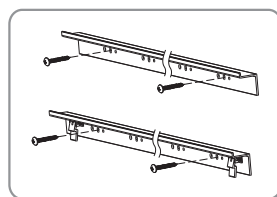

Figure 14
- a) Wood wall mounting: to fix the brackets onto the wall using 4 provided Wooden screws $\varnothing 5 \times 40$, two screws for each bracket. (Figure 14)